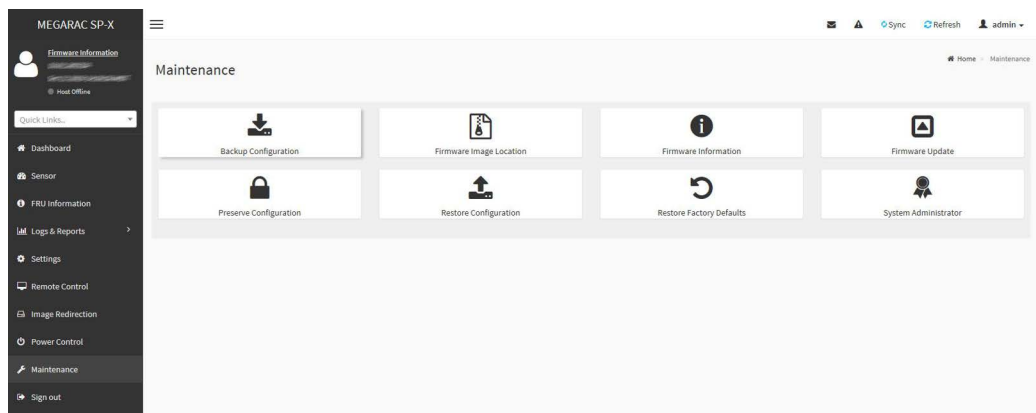

Figure 7.18 Maintenance menu options
12. Select **Maintenance** to access options to back up the current configuration, identify the firmware image location, view firmware information, and update the current firmware version. The user may also restore configuration settings and obtain access to the password change functionality. Maintenance options are displayed in Figure 7.18.